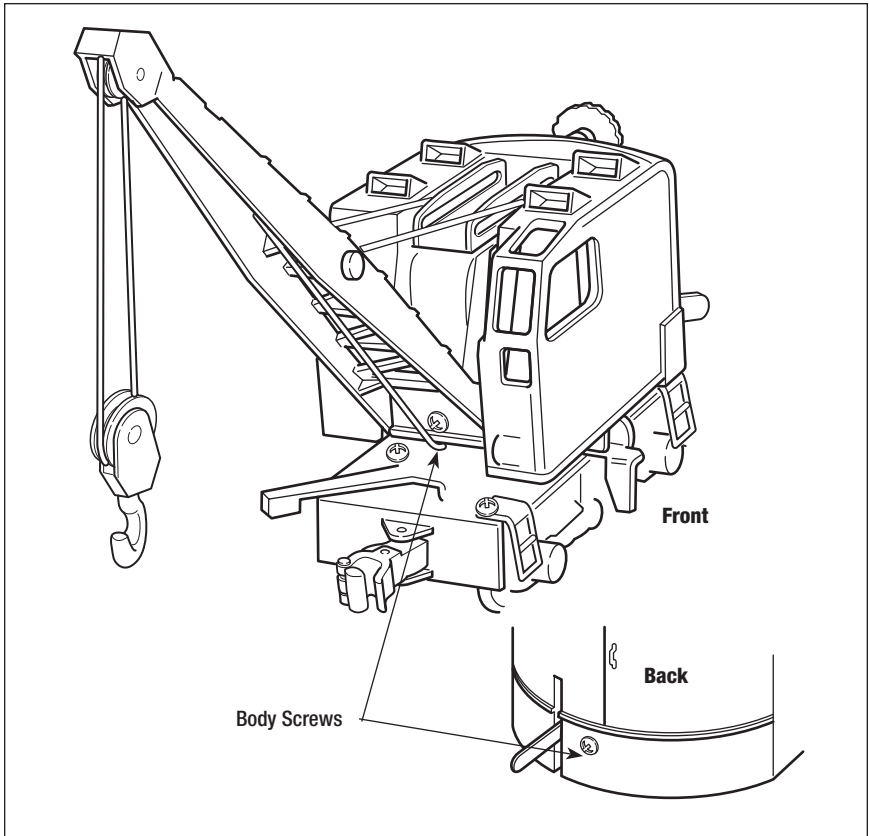

Figure 4. Screw locations
1. Remove the two body screws from the cab. Refer to Figure 4 for the location of these screws.